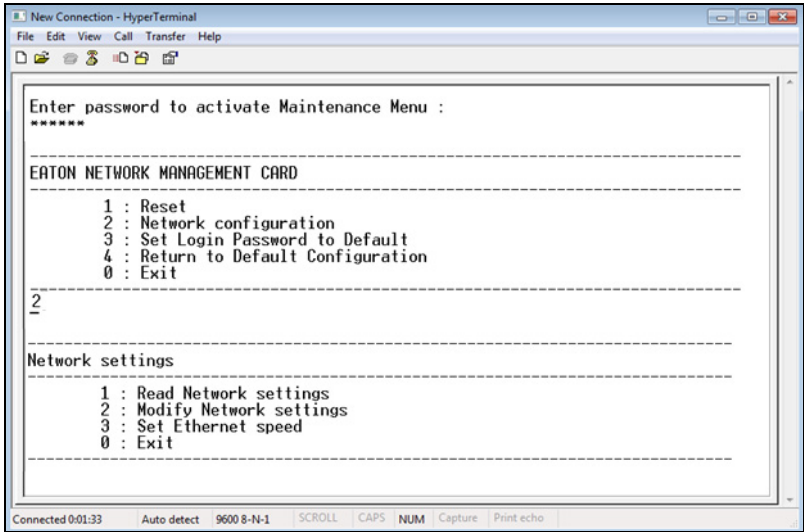

Figure 8. Modifying the Network Settings
1. From the Network Card-MS main menu, type **2** for Network Configuration and press **Enter**. The Network Settings menu displays (see Figure 8).